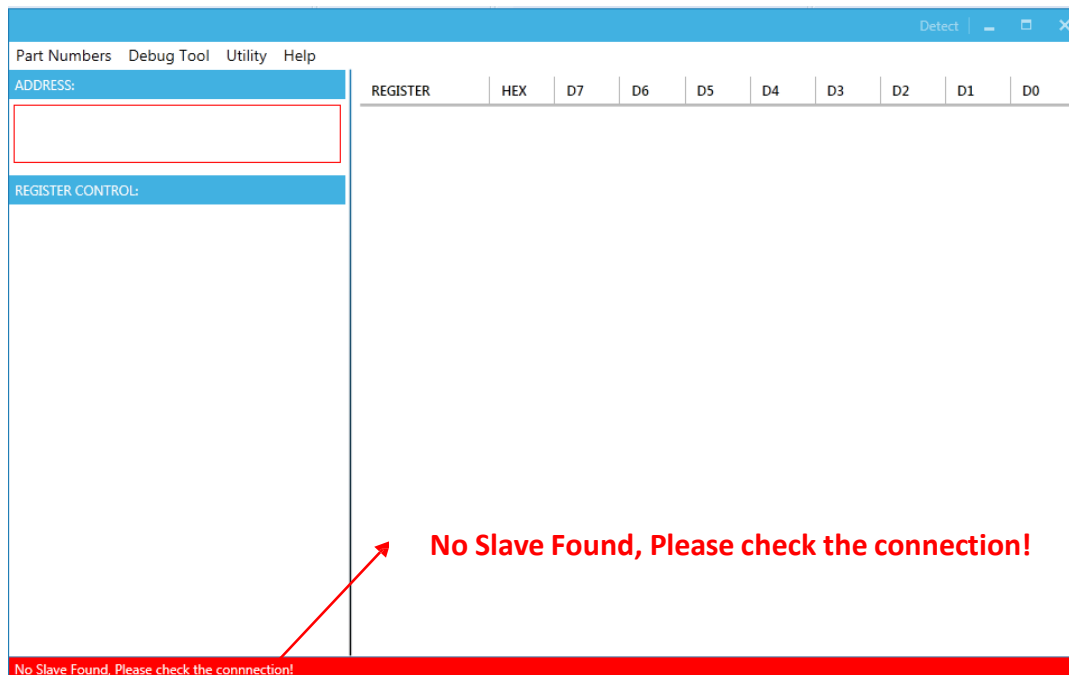

Figure 8: Warning Indicates Unsuccessful Connection – Evaluation Board Not Connected
- “No Slave Found, Please check the connection!” This means that the evaluation board is not connected (see Figure 8).